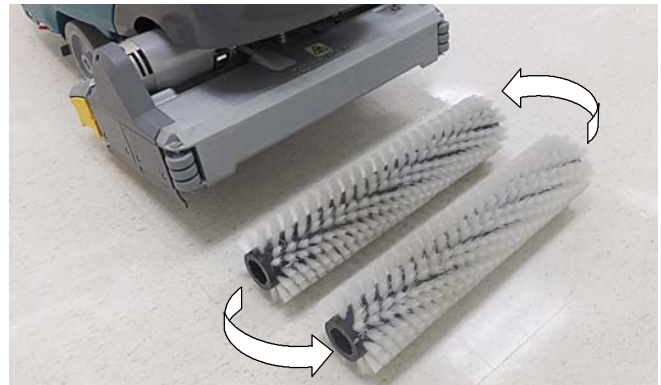

FIG. 122
3. Cylindrical brushes - Rotate brushes from front to rear (Figure 122). Replace brushes when they no longer clean effectively.